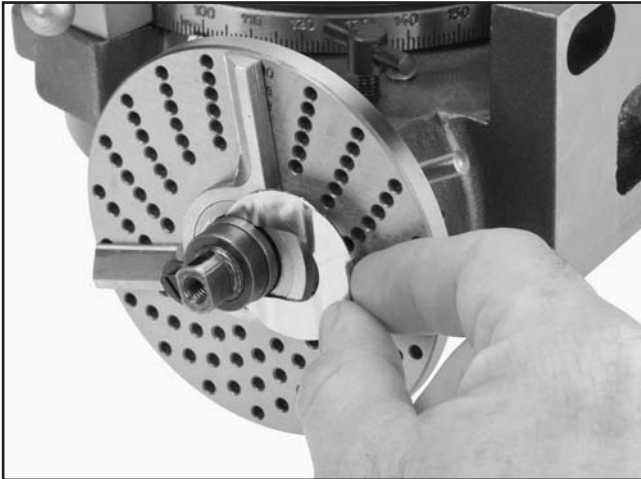

Figure 15. Inserting sector arm spring.
- Slide the sector arm spring into the slot on the shaft to hold the sector arms tight against the dividing plate (see **Figure 15**).